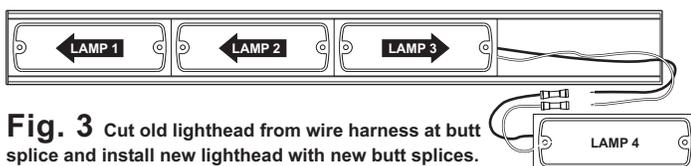

Fig. 3 Cut old lighthouse from wire harness at butt splice and install new lighthouse with new butt splices.
2. Slide the lighthouse you wish to replace out of the base (Fig. 3).